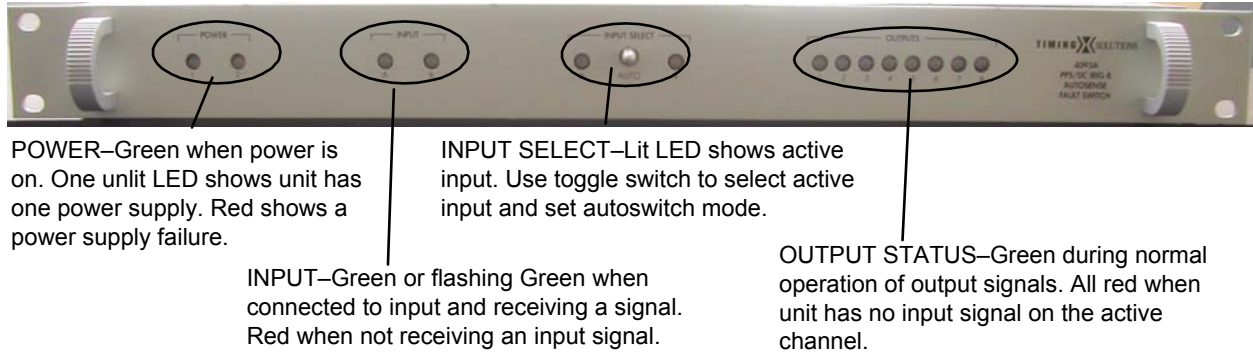
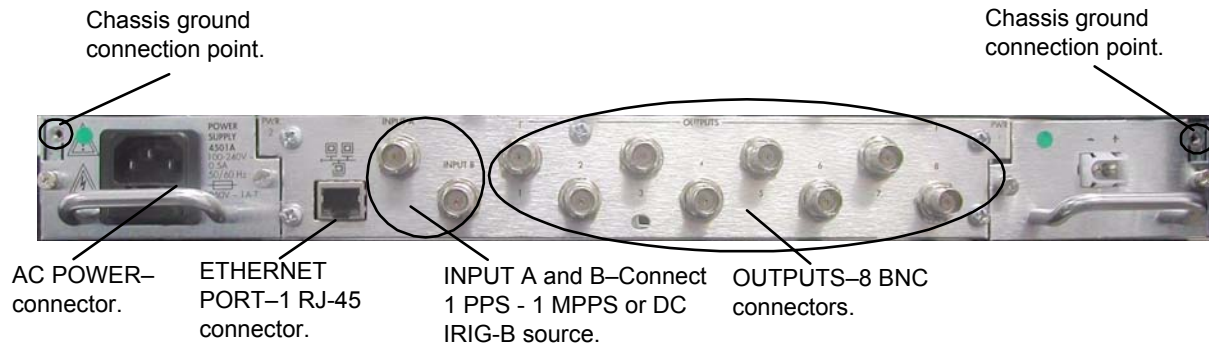

Figure 1: Front panel
Figure 2: Rear panel
Figure 1 shows the 4093A's front panel, and Figure 2 shows the 4093A's rear panel.
3. Using a #1 Phillips screwdriver and a #6-32 pan head screw, connect a ground wire to the chassis ground point located next to one of the power supplies. See Figure 2 for location.